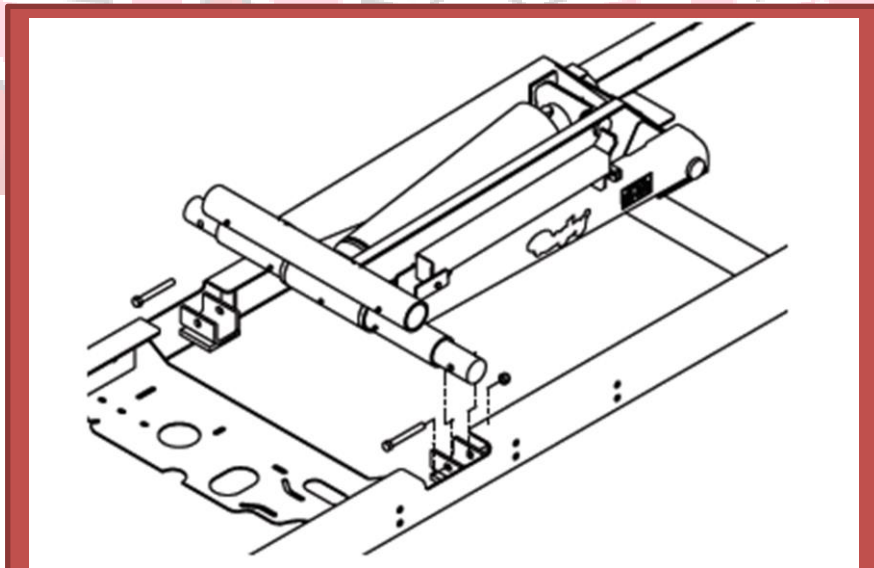

Figure 10: Sub-frame Positioning
3. Secure the saddle shaft to the sub-frame with the provided hardware as shown in **Figure 10**. Refer to **Figure 6** for torque guidelines.